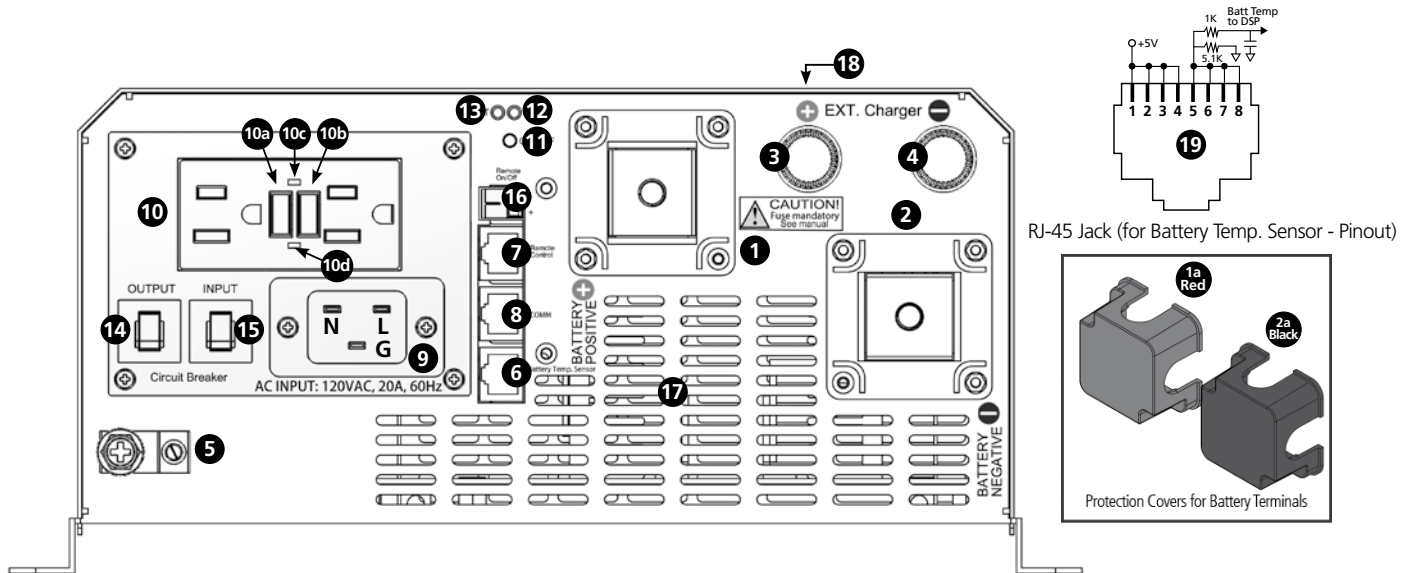

Fig 2.1 Layout of Front side EVO-1212F / EVO-1224F
Legend for Fig 2.1
19. Pinout for RJ-45 Jack marked "Battery Temp. Sensor" (6, Fig 2.1)
1. RJ-45 Plug: Pins 1 to 4 → + NTC ; Pins 5 to 8 → – NTC (See pinout of mating RJ-45 Jack at 19, Fig 2.1)